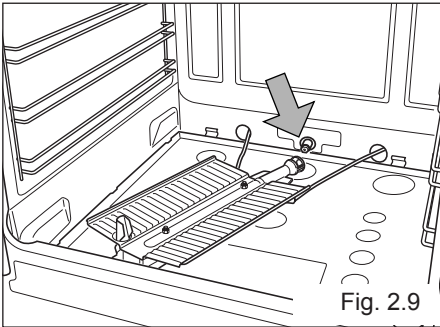

Fig. 2.9
- Withdraw the burner as shown in figure 2.9 and rest it inside the oven. Take care not to damage the wire to the ignition electrode and the safety valve probe.
- Using a 7 mm box spanner, unscrew the injector (indicated by the arrow in fig. 2.9) and replace it by the proper one according to the kind of gas. Then replace the burner repeating the above steps in reverse order.